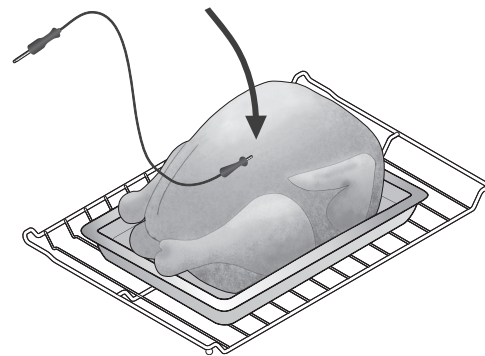

Figure 27: Probe in thickest part of breast
- For whole poultry or turkey, fully insert the probe sensor into the thickest part of the breast (See Figure 27).